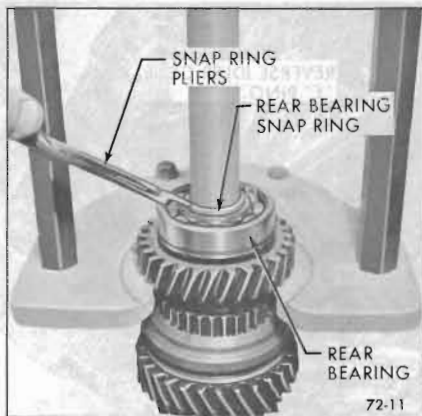

Figure 72-11—Removing Rear Bearing Snap Ring
2. Remove rear bearing snap ring. See Figure 72-11.